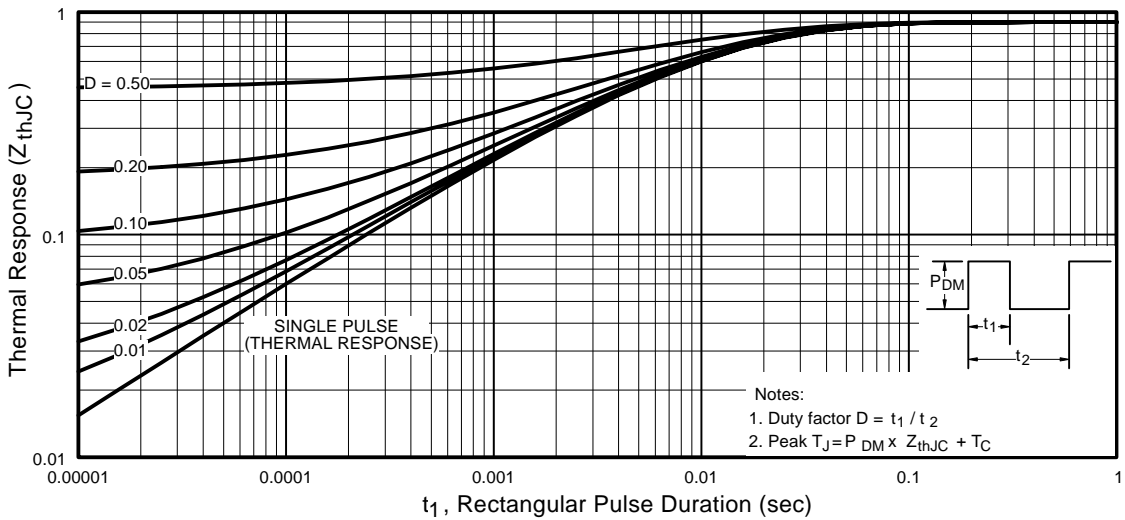

Fig 11. Maximum Effective Transient Thermal Impedance, Junction-to-Case
① Repetitive rating; pulse width limited by max. junction temperature. (See fig. 11)
② Starting $T_J = 25^\circ\text{C}$, $L = 194\mu\text{H}$